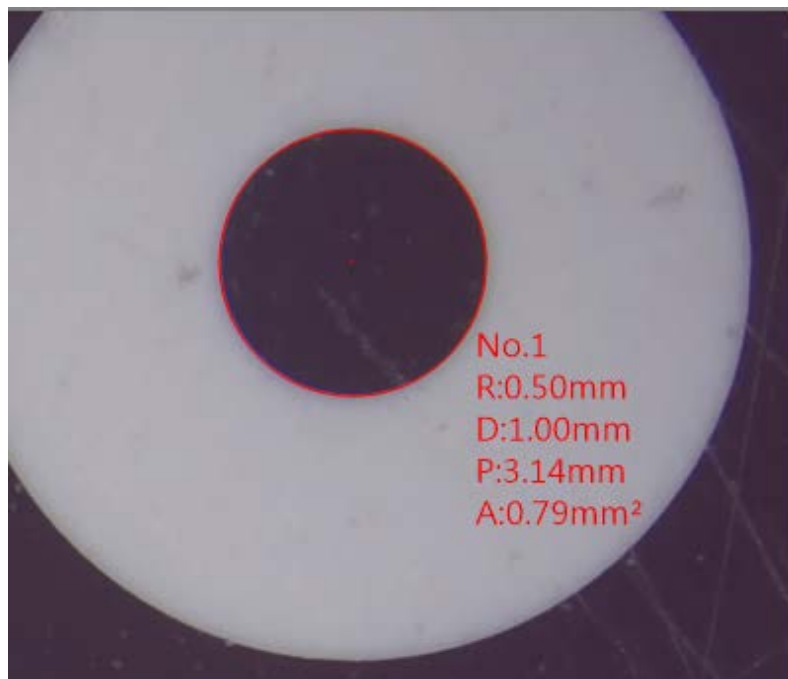

Fig 5-10 2 Point Circle
- (6) 2 Point Circle : The object is circle that can apply  tool. Click the 1st point on the edge of object, press and drag the left key of mouse toward 2nd point on the edge of object that automatically draw a circle. In the Fig. 5-10, Radius is R=0.5mm, Diameter is D=1.00 mm, Perimeter is P=3.14mm and Area is A=0.79mm2.